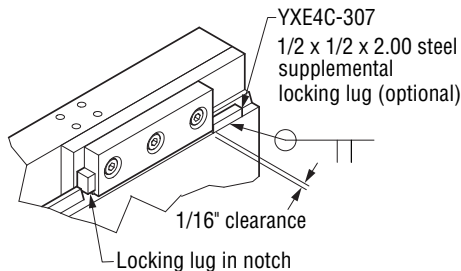

Figure 3-5, Locking Lug
2. Line up the locking lug (Figure 3-5) with the appropriate notch on the truck's carriage.